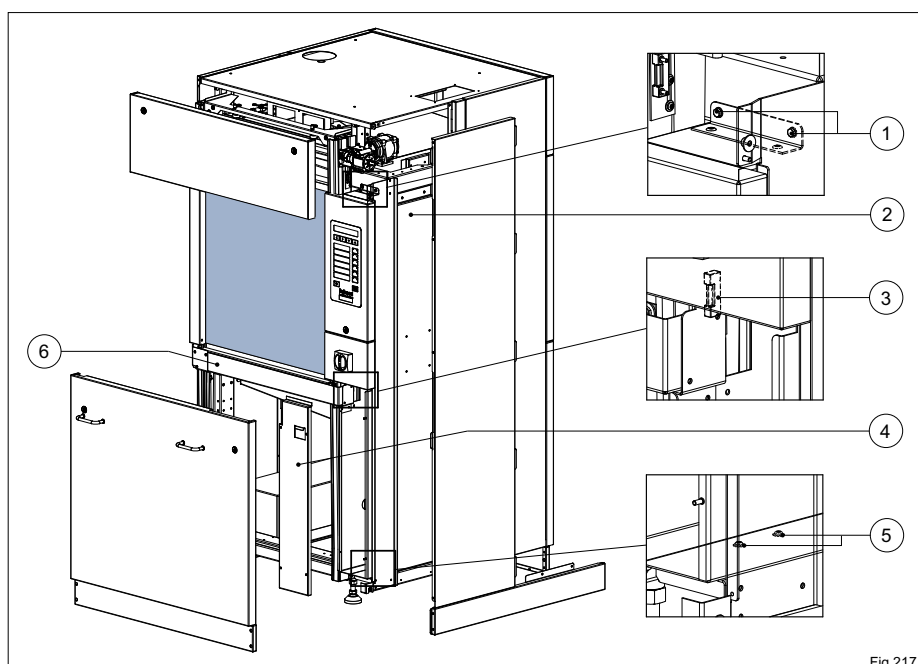

Fig 217
- ▶ Remove panels (Fig. 217)
- ▶ Remove lid from switch box (Fig. 217 Pos.4)
- ▶ Remove angle plate screws (Fig. 217 Pos.1)
- ▶ Remove base frame screws (Fig. 217 Pos.5)
- ▶ Unplug switch (Fig. 217 Pos.3)
- ▶ Pull out electro drawer (Fig. 217 Pos.2)